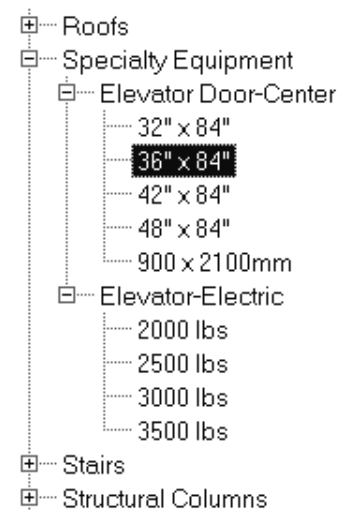

FIGURE 3-4.3 Elevator doors in Project Browser
15. Drag the **36" x 84"** elevator door type from the project browser into the first floor plan (Figure 3-4.3).